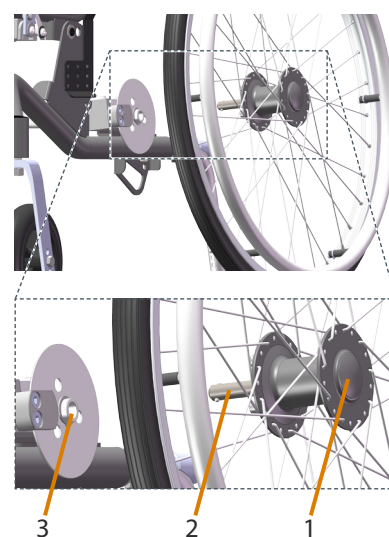

Figure 7. Wheel removal
- Press the release button (1, Figure 7) in the hub, pull off the wheel.
- Insert the axle (2) in the wheel mount housing (3), see Figure 7.
- Press the quick-release button (1) on wheel hub.